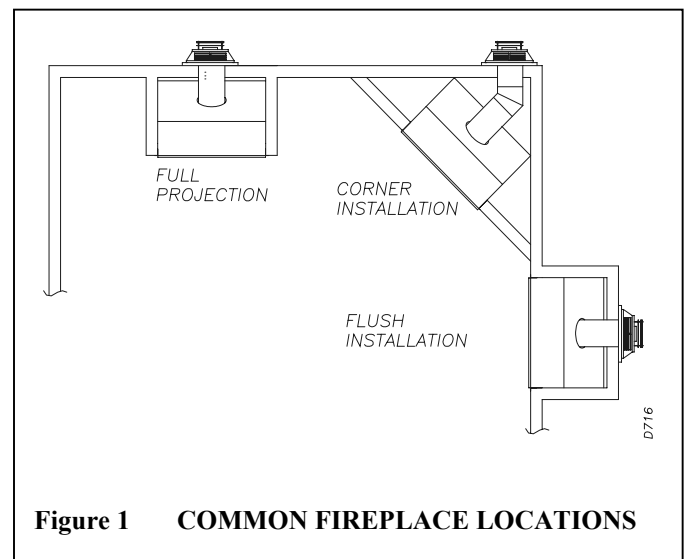

Figure 1 COMMON FIREPLACE LOCATIONS
- ❖ The location must allow for proper clearances (see figure 1).